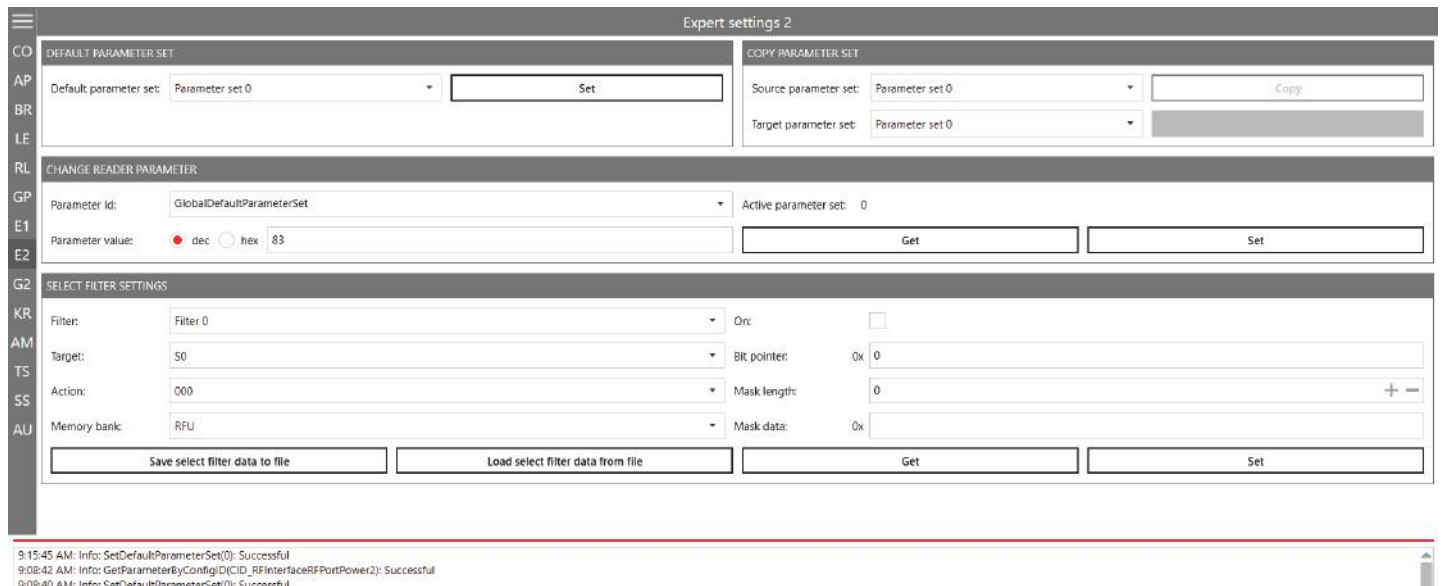

Fig. 50: Expert settings 2
1. Select the filter you would like to save the filtering settings to under **Filter** (①).
2. Select the target (②). Make sure the target matches the session set in ⑩ Fig. 50, p. 88.
3. Select an action (③). In the example, the action is set to **100**; see also *EPCglobal Gen 2 Specification*.
4. Select the **EPC** memory bank (④).
5. Activate the select filter (⑤).
7. Enter **40** at **Bit pointer** (⑥).
8. Enter the mask length at ⑦. In the example, *FC28* is one word, therefore, the value is **16**.
9. Enter the value (*FC28*) at ⑧.
10. Click **Set** (⑨).